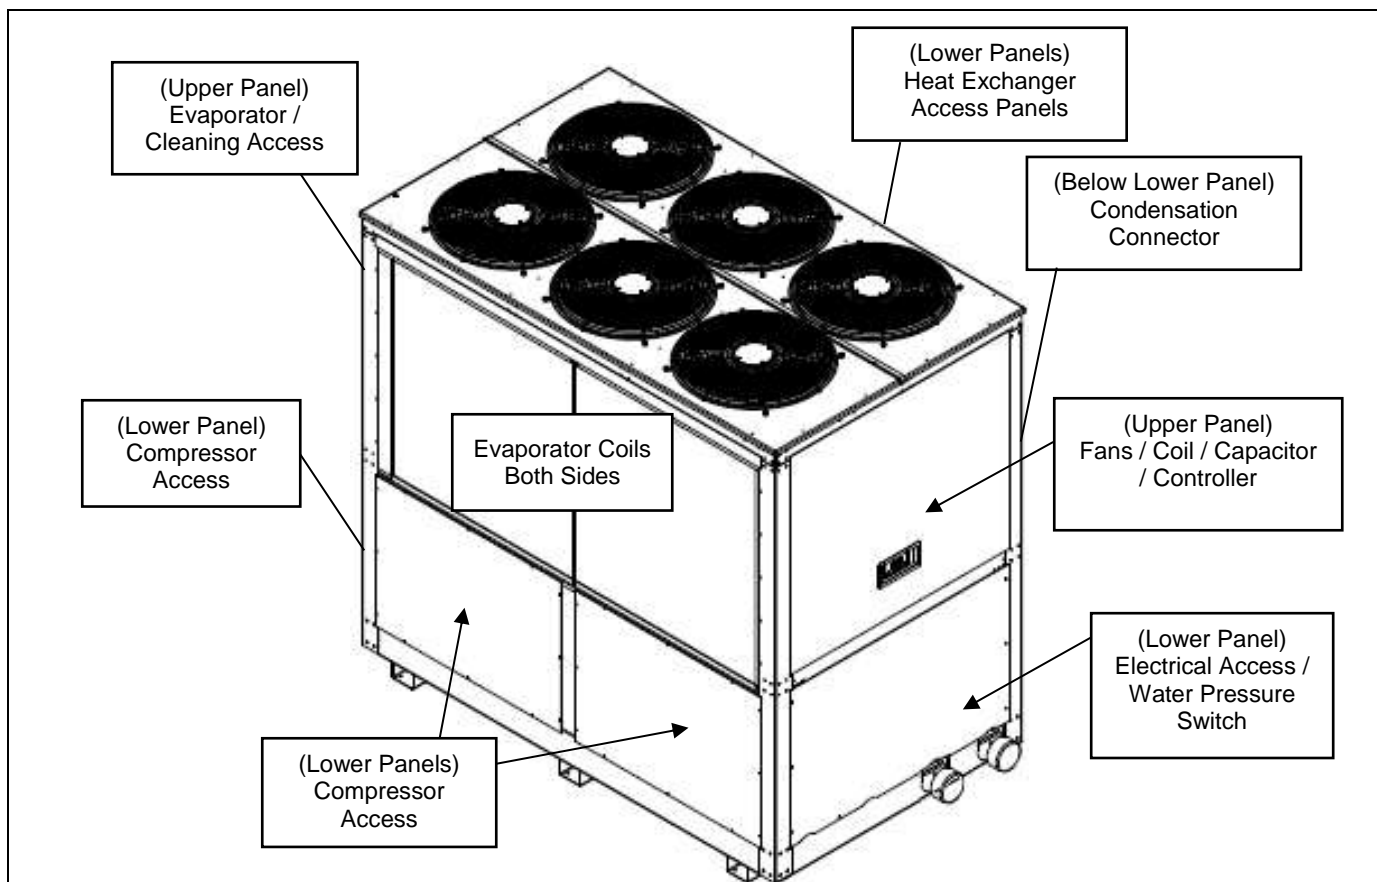

Figure 4
An annual inspection and maintenance program is strongly recommended starting one (1) year after installation of heat pump. See Figure 4 for recommended inspection checklist. AquaCal AutoPilot can perform this service in limited areas. Contact Customer Support for more information.